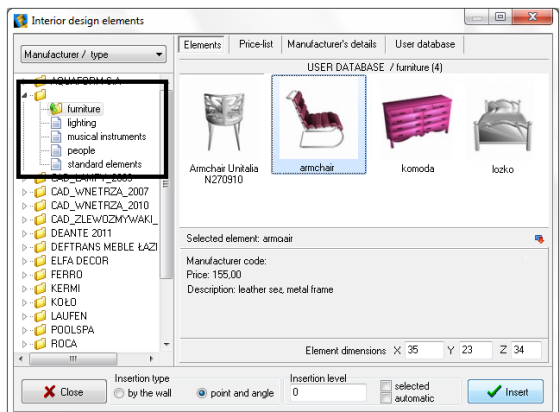

Fig. 285 – example models saved in the User Database
- to insert a model to a project, close **Converter**, go to **Interior design elements** dialog (**Elements** tab), click on the **User Database** position on the list of bases, select a type or set and finally – indicate the model and click **Insert** (Fig. 285).